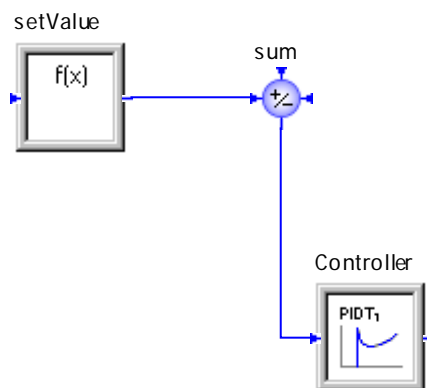

Figure 5: model of the controller
- Delete all elements in the sample model except of **setCurve**, **sum** and **PIDController** (see Figure 5)
Figure 5 shows the model structure of the controller model after these previous modifications.
First we want to export the controller model (Figure 5), so change to that model.